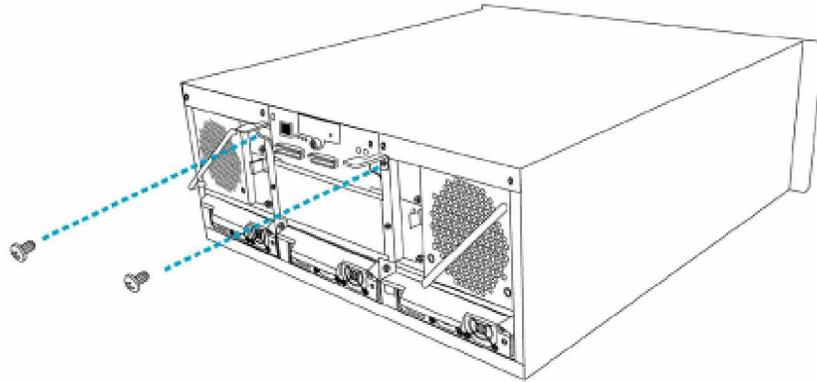

Figure 5-2: Removing the Retention Screws
-  Step 5. **Loosen the retention screws** that secure the controller's ejector levers to the enclosure chassis. (See *Figure 5-2*)